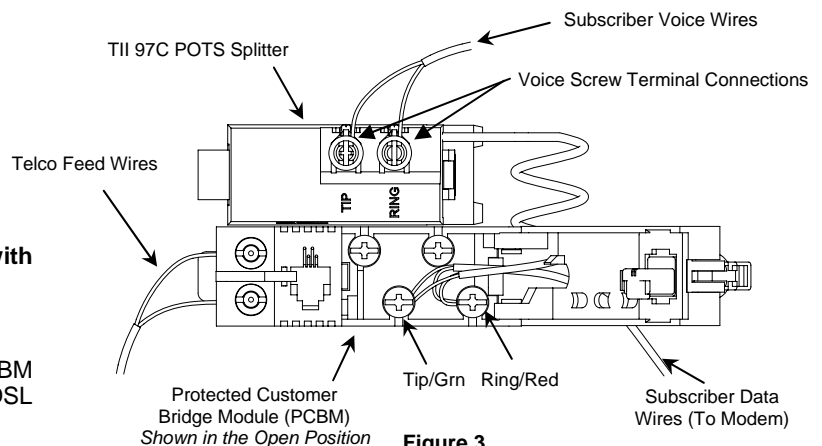

Figure 3
- Connect the line-in terminals of the TII 97C to the screw terminals on the PCBM (Tip to green, Ring to red) (see Figure 3).
DATA Wiring: Connect the subscriber DATA wires to the screw terminals on the PCBM (Tip to green, Ring to red) (see Figure 3).